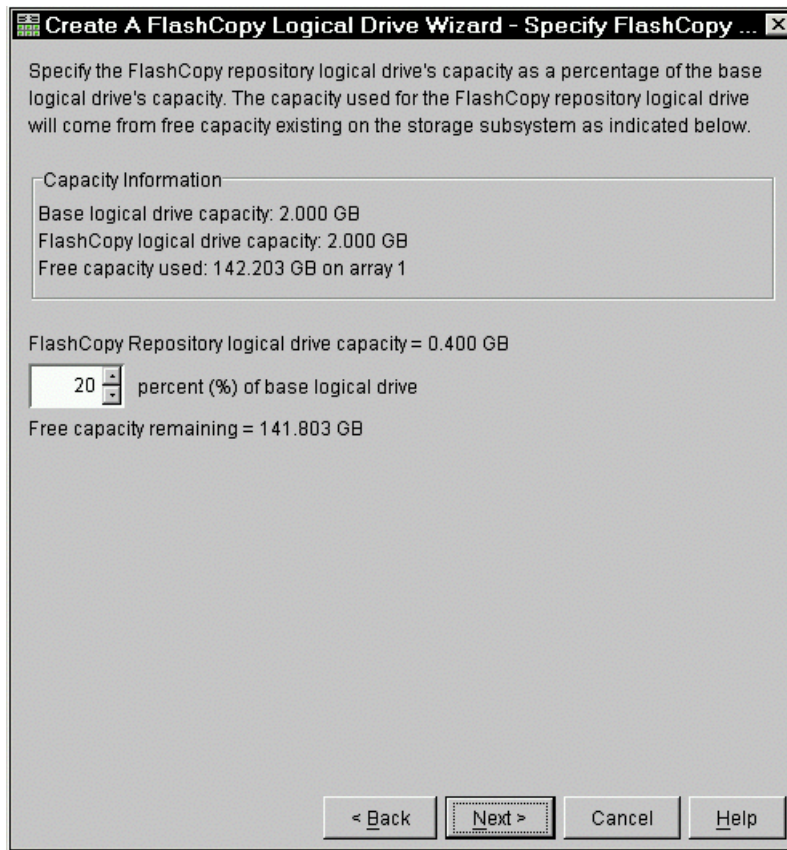

Figure 5-16 Specify Repository Drive Capacity
- e. On the Specify FlashCopy Repository Logical Drive's Capacity window (Figure 5-16), set the repository drive capacity as a percentage of the base logical drive's capacity.